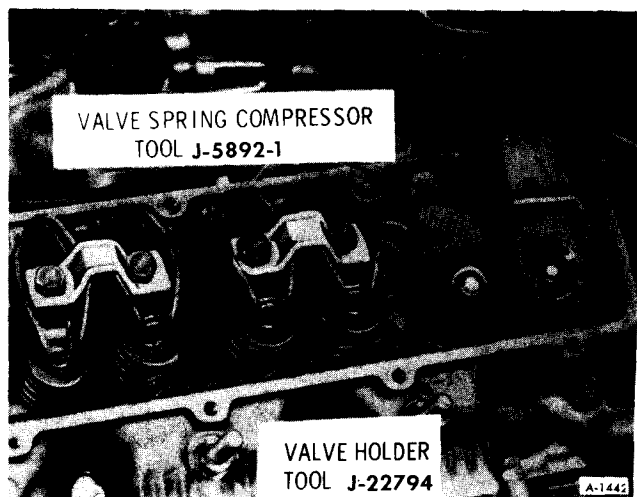

Figure 37—Removing Valve Spring
3. Remove spark plug and install Tool J-22794 into spark plug hole and attach to an air hose to hold the valve against its seat (figure 37).
4. Install Tool J-5892-1 (figure 37). Compress the valve spring until valve keys are accessible, then remove keys, valve rotators and springs.